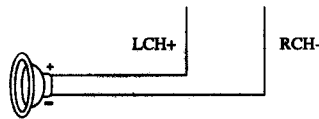
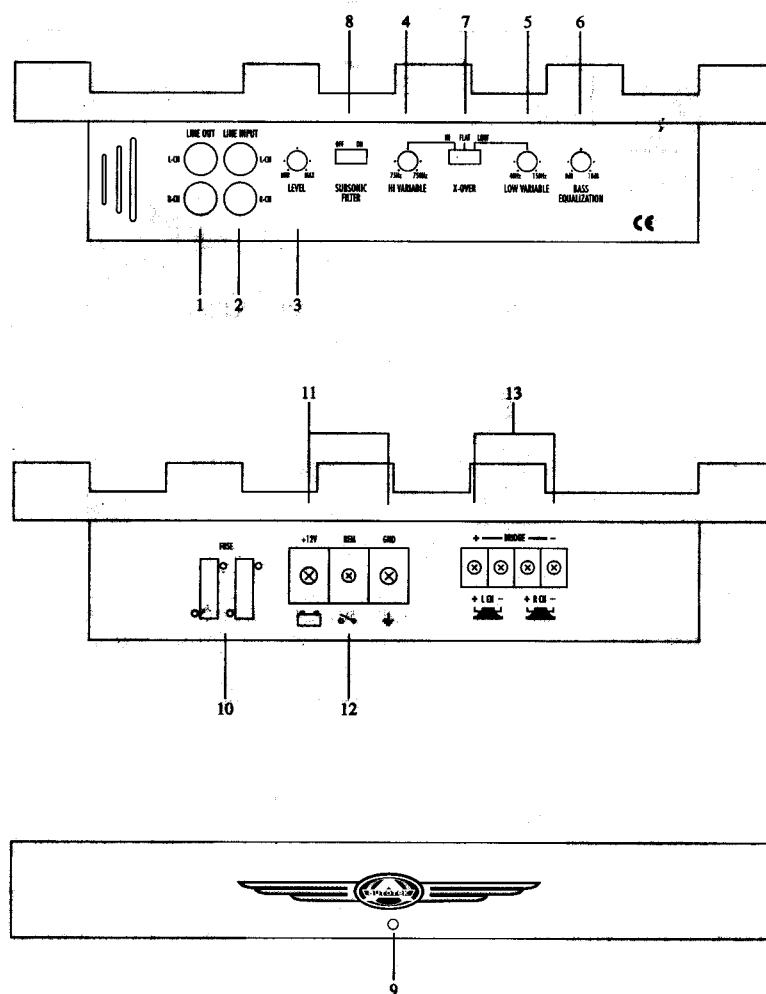

Fig. 4 Speaker Output Connections—MONO Mode
Fig. 5 Features and Controls
- The amplifier can be used in the STEREO and BRIDGED mode as shown in Fig. 4, Fig. 5.
- When used in the BRIDGED mode the speaker wires should be connected to the output terminals of the amplifier as shown . (Ref. To Fig. 5)